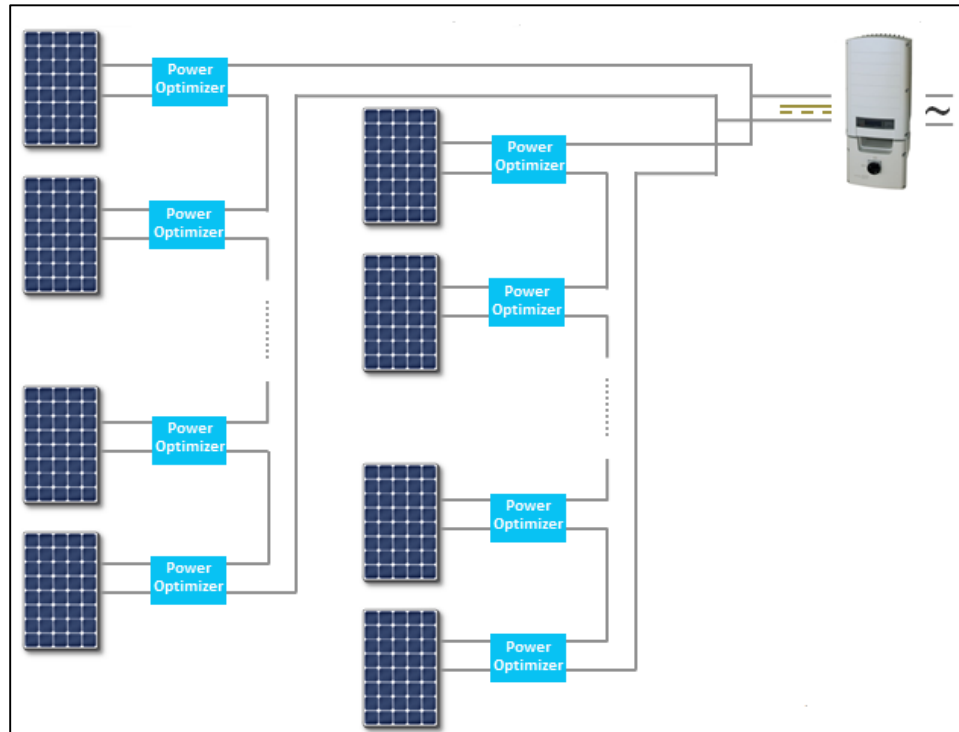

Figure 1 – Basic SolarEdge System Topology
The SolarEdge Distributed Energy Harvesting System is a state-of-the-art system designed to harvest the maximum possible energy from photovoltaic (PV) modules in utility-interactive (grid-tied) PV systems. A SolarEdge PV system, shown in Figure 1 below, consists of three main elements: PV modules, power optimizers (dc to dc converters) located at each module, and a separate dc to ac grid interactive inverter which can be located at the array or at a remote location, e.g. near the main service entrance. Balance of system equipment such as grounding, overcurrent protection, and disconnects are not shown in this diagram.